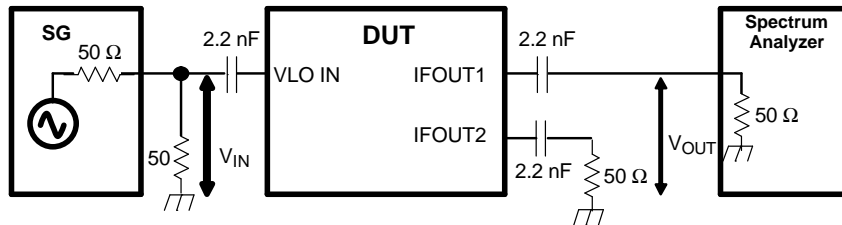

Figure 18. VHF-L Output Voltage Measurement Circuit
(5) IF = 36 MHz,  $V_{IN} = 107\text{ dB}\mu\text{V}$  (see Figure 18).